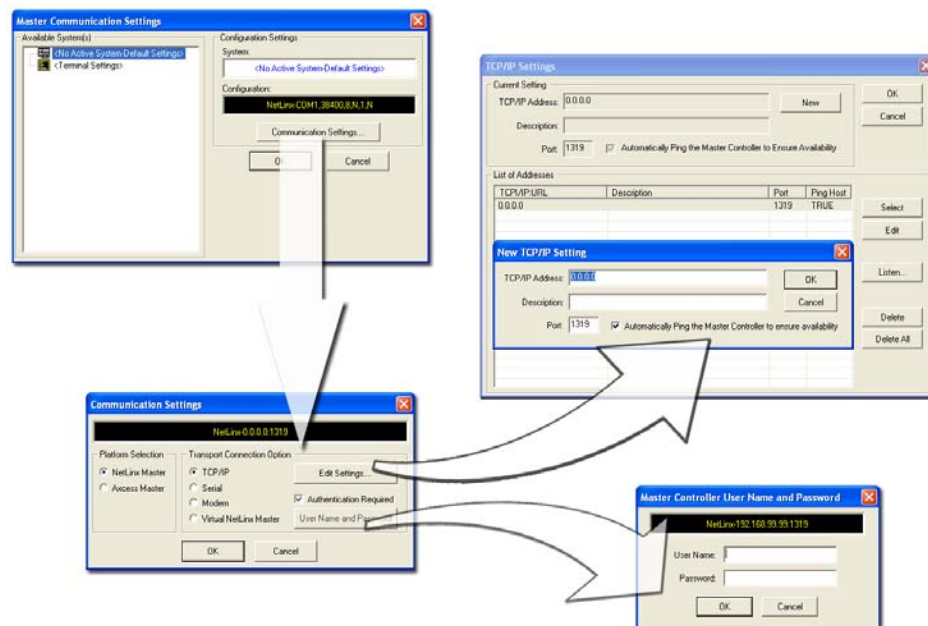

FIG. 51 Assigning Master Communication Settings and TCP/IP Settings
3. Select **Settings > Master Communication Settings** from the Main menu to open the Master Communication Settings dialog (FIG. 51).
7. Click the **Edit Settings** button (*on the Communications Settings dialog*) to open the TCP/IP Settings dialog (FIG. 51). This dialog contains a series of previously entered IP Address/URLs and their associated names, all of which are stored within Studio and are user-editable.